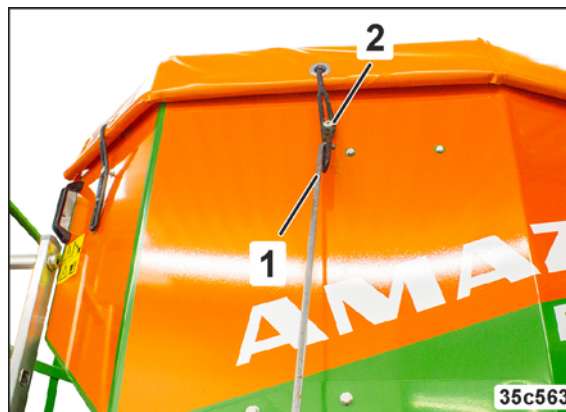

Fig. 242
4. Release the rubber loops (Fig. 242/1) together with the cover hook (Fig. 242/2).